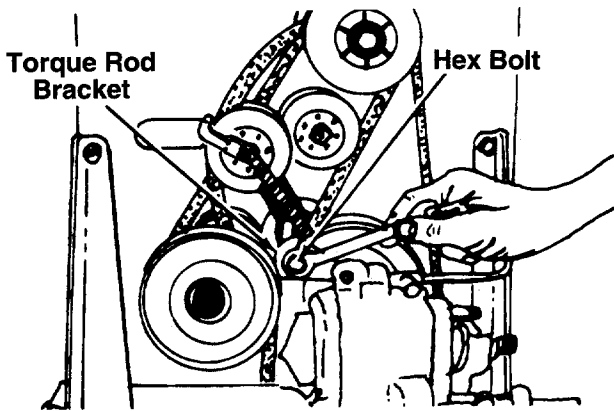

FIGURE 16.
4. Remove the hex bolt, nut and lock washer at the torque rod bracket and transaxle. See figure 16.
5. Remove the hex bolt which holds the torque rod bracket to the torque rod, and remove bracket. See figure 16.